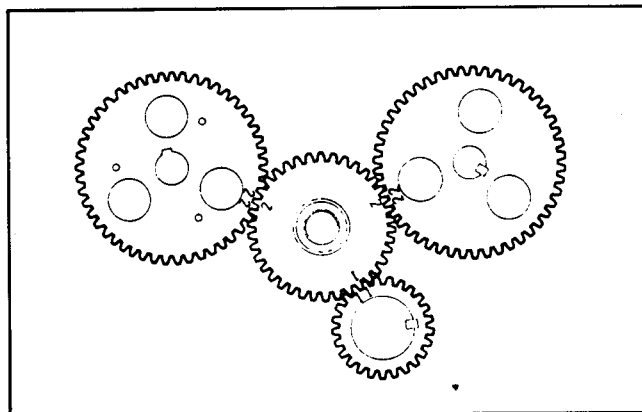

Figure 82
9. With the crankshaft set to No. 1 cylinder TDC, install the idle gear so the timing marks on all the gears are in alignment (Fig. 82).